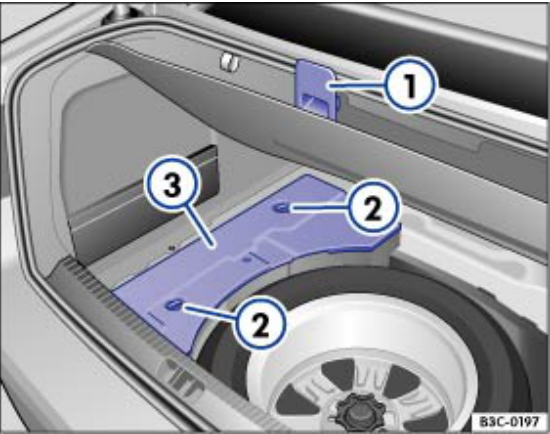

Fig. 222 In the luggage compartment under the floor covering ①: spare wheel and cover ② for vehicle tools
In a foam rubber holder under the floor covering:	– Attach the floor covering to the upper edge of the luggage compartment → Fig. 222 ①. – Turn quick-release catches → Fig. 222 ② 90° in order to remove the cover → Fig. 222 ③ of the vehicle tools.